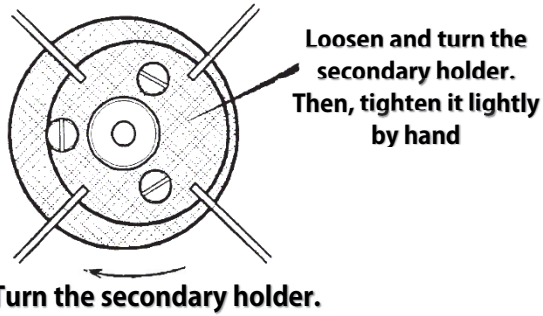
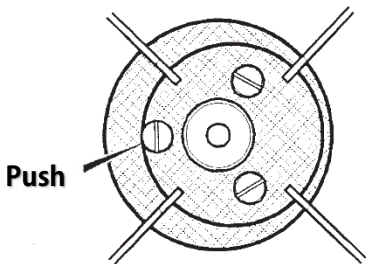

Fig. C-10
Fig. C-11
⑥ In this process the center of the reflection of the collimating eyepiece has been shifted off center as seen on the Fig. C-10. Then it becomes necessary to rotate and tilt the secondary mirror so that the center of the reflection of the collimating eyepiece is centered on the crosshairs. In the Fig. C-10 the secondary mirror is rotated so that the reflection on cross hair and in the Fig. C-11 the secondary mirror is tilted so that the center reflection of the collimating eyepiece is centered on the crosshairs by tightening push screw A. Now the center reflection of the collimating eyepiece is centered over the crosshairs as well as the center dot on the secondary mirror.